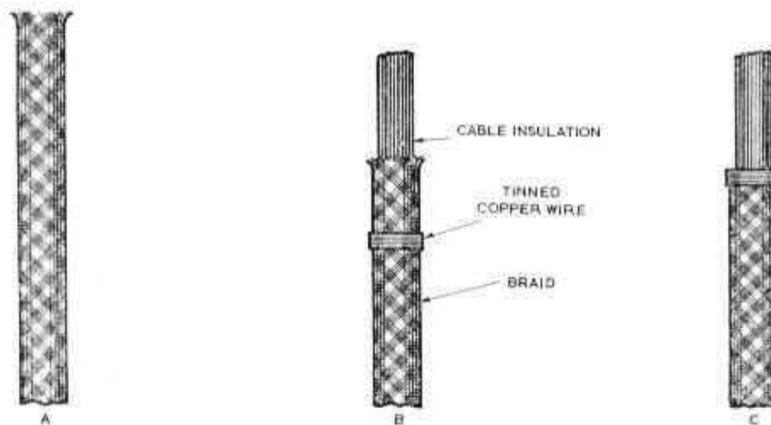

Fig. 18. Preparation of ends of screened cable
64. Cut the screened cable to length (fig. 18(A)). Strip the braid to a suitable length and wind five turns of 33 s.w.g. tinned copper wire some distance from the end (fig. 18(B)); lightly solder the wire to the braiding, taking care not to damage the cable insulation. Trim the braid so that no sharp ends or frays are left (fig. 18(C)).